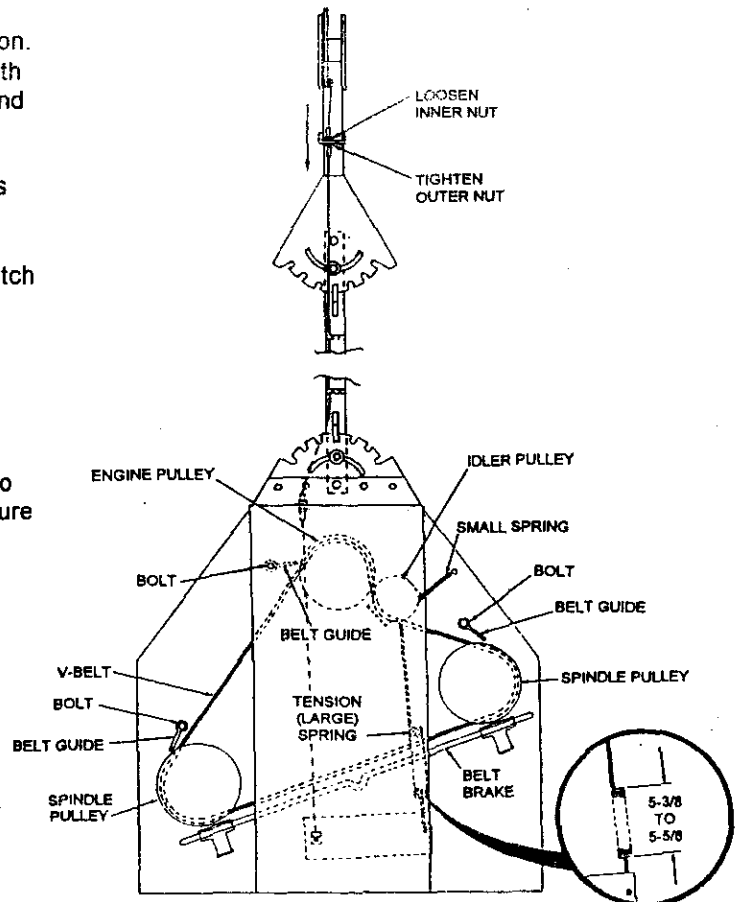

FIG. 9
- Remove two belt covers. (See Fig. 9)
- Check tension spring length. It should be 5-3/8" to 5-5/8" over the coils of the Spring Body. See Figure 9.